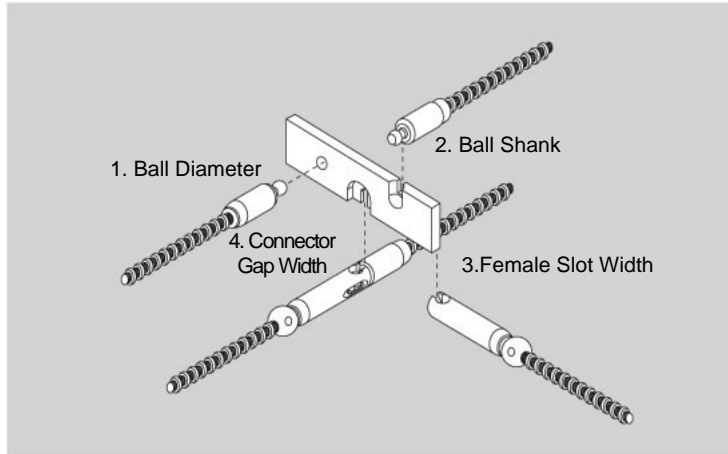

Figure 14 - No-Go gauge tests
- d. A final check of the control cable connector and source assembly connector is accomplished by use of a Model 550 NO GO gauge to check for significant wear on the connectors that would affect safety. Without using excessive force, check the following four positions (see Figure 14):